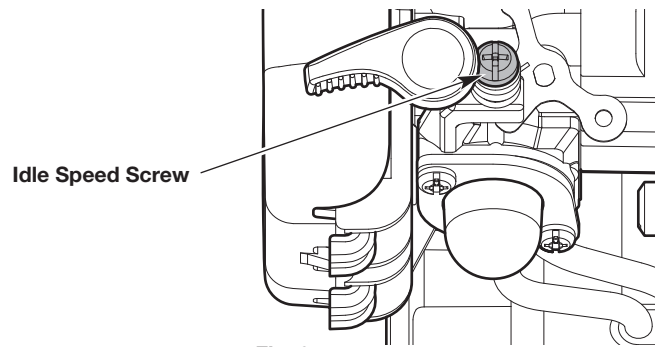

Fig. 25
- If the engine stops, increase the idle speed. Use a small Phillips screwdriver to turn the idle speed screw clockwise, 1/8 of a turn at a time, until the engine idles smoothly (Fig. 25).
- If the cutting head spins when the engine idles, reduce the idle speed. Turn the idle speed screw counterclockwise, 1/8 of a turn at a time, until the cutting head stops moving (Fig. 25).